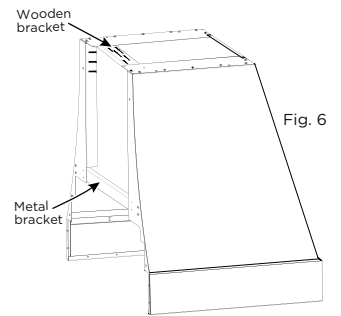

Fig. 6
13. Remove the upper wooden bracket and lower metal bracket from the Torino. Discard these brackets. (Fig. 6)